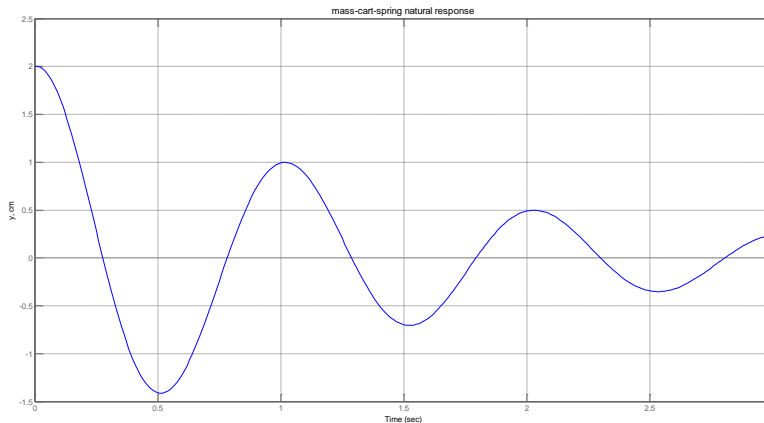

Figure 2: Mass-Cart-Spring Natural Response
- b. *The waveform in Figure 2 is the underdamped natural response for a mass-cart-spring system, estimate the natural frequency and damping ratio using the log-decrement method.*